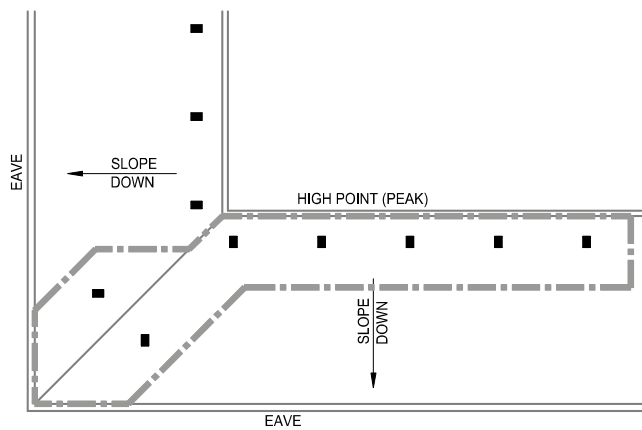

FIGURE 26A
- Calculate the 5 most hydraulically demanding contiguous DS sprinklers located along the high point plus the 2 most demanding sprinklers along the hip line. See Figure 26A.